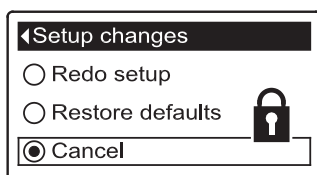

FIG. 84
8. Press the RIGHT (►) button. A flashing padlock icon will appear, as shown in Figure 84.
- 1-7. Go to the **Setup changes** screen (Figure 84) by following Steps 1-7 at left.